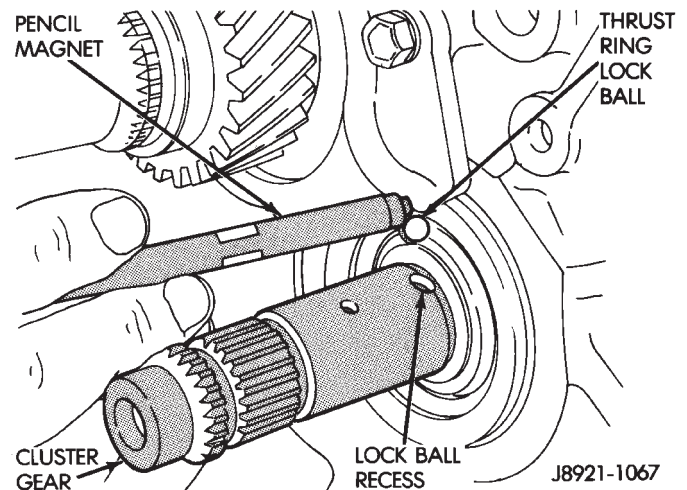

Fig. 97 Installing Thrust Ring Lock Ball
- (1) Install thrust ring lock ball in cluster gear journal (Fig. 97). Use petroleum jelly to hold ball in place.